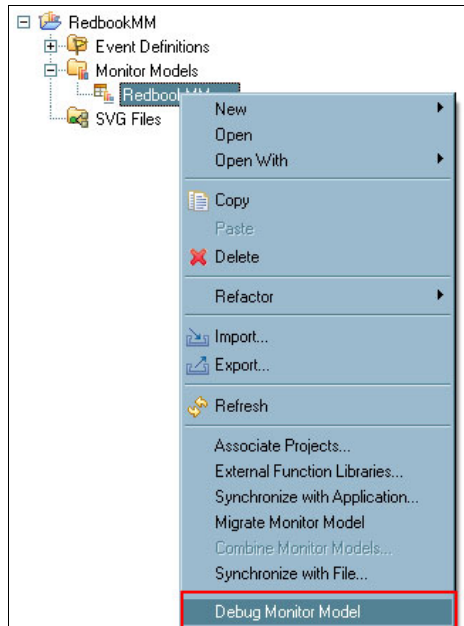

Figure 8-104 Start monitor debugger
4. Right-click the monitor model and select **Debug Monitor Model**. See Figure 8-104.